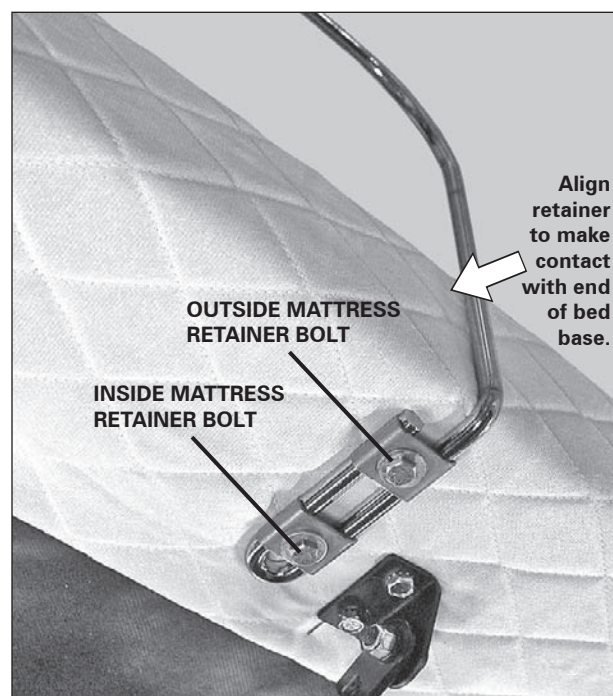

FIGURE 10: Detail of one side of mattress retainer installed (shown from the underside of the bed base).
- e. Align mattress retainer until it makes contact with the end of the bed base (**FIGURE 10**).
- f. Holding the retainer in place, install the (2) **inside** mattress retainer bolts (loosely) into the threaded lug fittings (**FIGURE 10**).
- g. Install the (2) **outside** mattress retainer bolts (**FIGURE 10**).